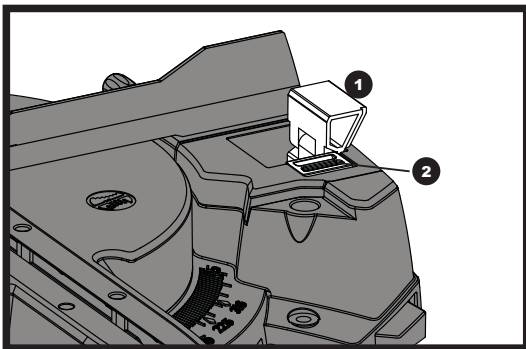

Fig 37
- 1) Slide the sprung-loaded lock (2) forwards.
- 2) Whilst holding the release lock, pull the stop (1) from its stored position upwards and to the right. The stop will deploy to the outboard position.
- 3) Slide the release lock (2) backwards to lock the stop position.
- 4) To stow away, reverse the above steps. (See fig. 37)